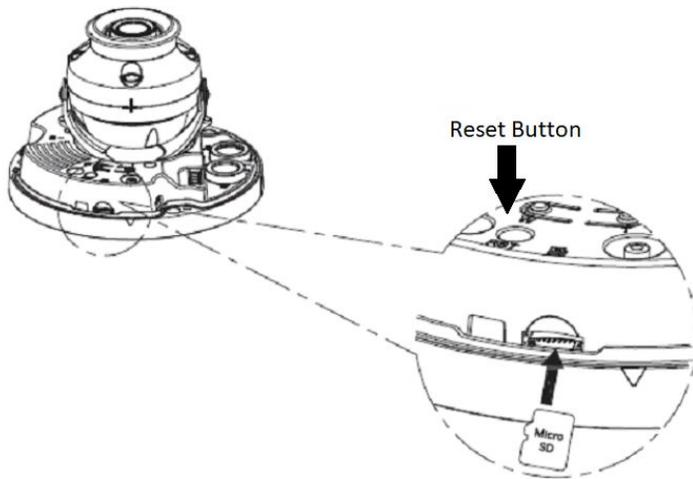

Figure 2-7
Step 2 Slightly press the RESET button to complete the reset function. See Figure 2-7. The camera will reboot when the reset process is complete.